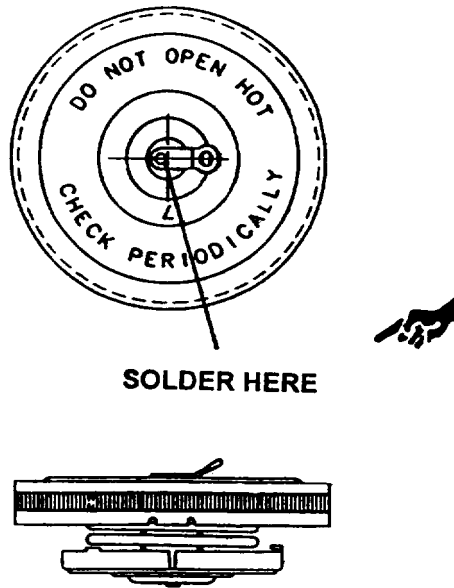
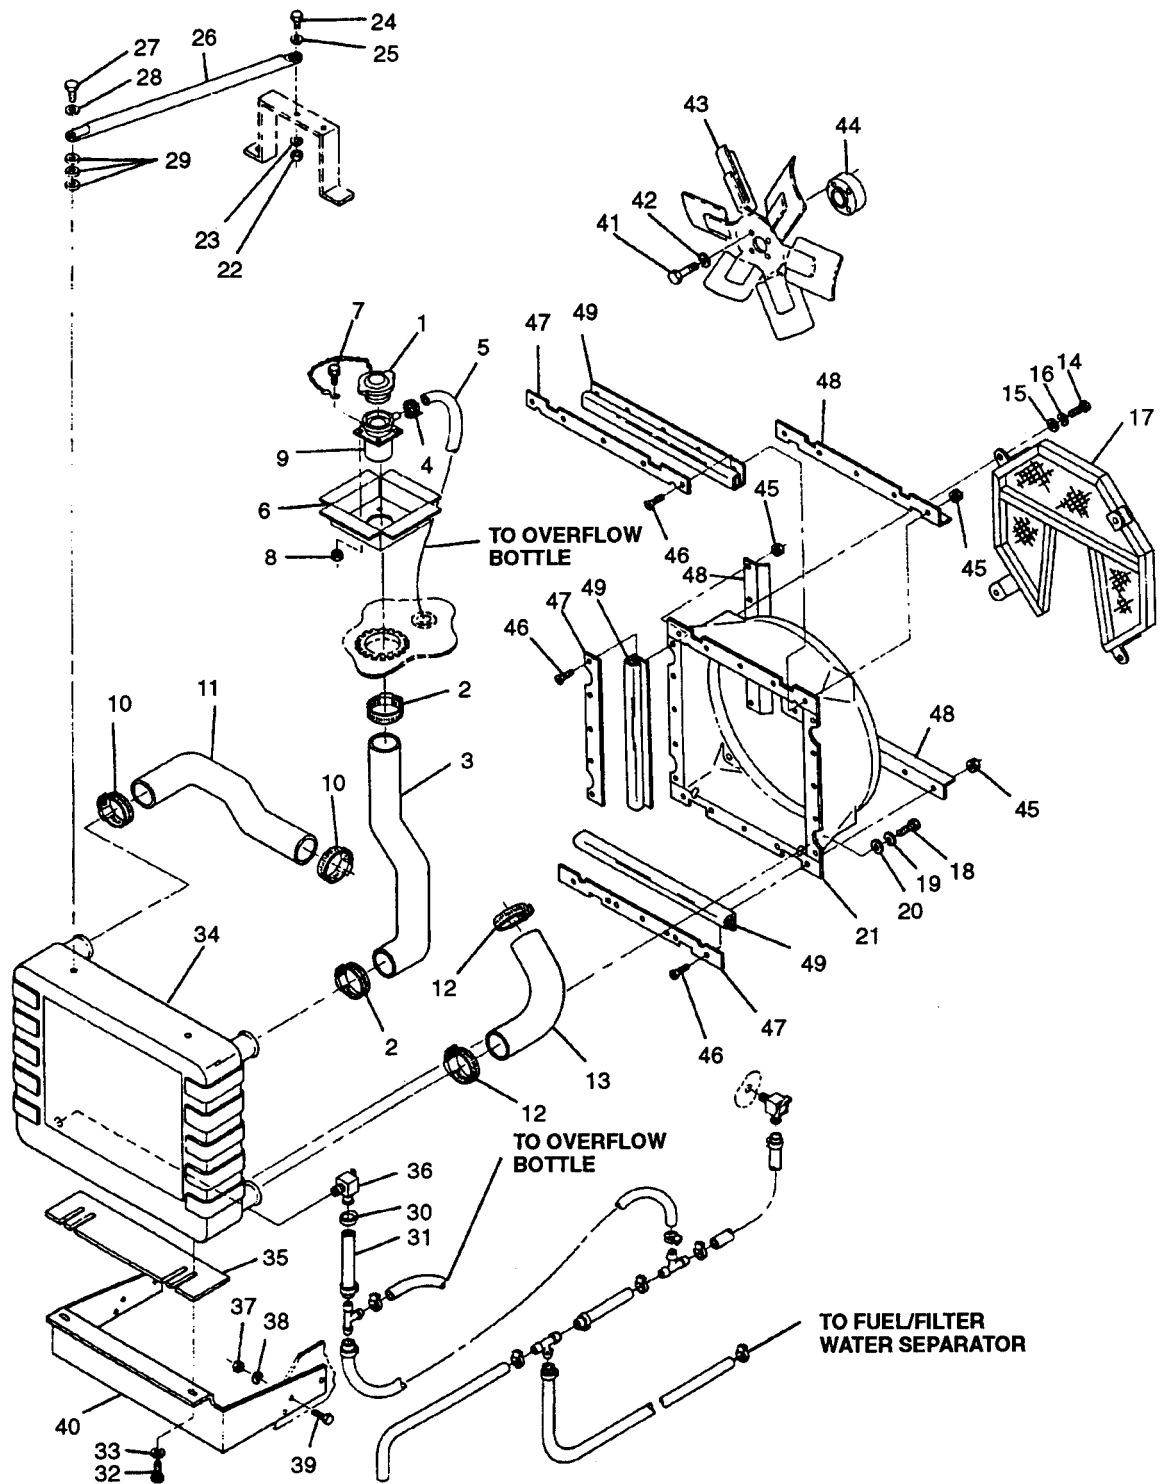

FIGURE 2-22. Radiator Cap
FIGURE 2-23. Coolant System
- b. Slowly remove radiator cap (1, FIGURE 2-23).
- g. Install radiator cap (1) on pressure tester.
- j. Install radiator cap (1).
- d. Slowly remove radiator cap (1, FIGURE 2-23).
- e. Open radiator drain valve (36) and drain coolant/antifreeze into suitable container to a level below radiator filler hose (3) connection at radiator.
- f. Loosen clamps (2). Remove radiator filler hose (3) and clamps (2).
- g. Loosen clamp (4) and disconnect overflow hose (5) from radiator filler neck (9).
- h. Remove radiator fill panel (6) and filler neck (9) from generator set.
- i. Remove bolts (7), nuts (8), cap (1), and radiator filler neck (9) from radiator fill panel (6).
- c. Inspect radiator filler hose (3, FIGURE 2-23) for cracks, holes, and dry rot.
- d. Inspect filler panel (6), filler neck (9), and cap (1) for cracks, excessive corrosion, and other damage.
- a. Install radiator filler neck (9, FIGURE 2-23) and cap (1) on radiator fill panel (6) with bolts (7) and nuts (8).
- b. Position radiator fill panel (6) and filler neck (9) in generator set and attach overflow hose (5) with clamp (4).
- c. Install radiator filler hose (3) on filler neck (9) and radiator (34) with clamps (2).
- e. Close radiator drain valve (36) and add coolant /antifreeze to proper level, paragraph 2-1.2.2.
**If replacing radiator cap solder tab to radiator cap as shown in FIGURE 2-22.**
- f. Install radiator cap (1).
- e. Open radiator drain valve (36) and drain coolant/antifreeze into suitable container.
- f. Loosen clamps (10). Remove upper coolant hose (11) and clamps (10).
- c. Inspect upper coolant hose (11, FIGURE 2-23) for cracks, holes, and rotting.
- a. Install upper coolant hose (11, FIGURE 2-23) on thermostat housing opening and radiator (34) with clamps (10).
- b. Close radiator drain valve (36) and add coolant/antifreeze to proper level, paragraph 2-1.2.2.
- c. Install radiator cap (1).
- e. Open radiator drain valve (36) and drain coolant into suitable container.
- f. Loosen clamps (12) and remove lower coolant hose (13).
- c. Inspect lower coolant hose (13, FIGURE 2-23) for cracks, holes, and rotting.
- a. Install lower coolant hose (13, FIGURE 2-23) on radiator outlet opening and water pump opening with clamps (12).
- d. Locate overflow or drain hose to be removed, as shown on FIGURE 2-23 and FIGURE 2-25.
- d. Remove bolts (14, FIGURE 2-23), washers (15), lockwashers (16), and fan guard (17) from shroud (21).
- a. If removed, install radiator mounting bracket (40, FIGURE 2-23) with bolts (39), lockwashers (38), and nuts (37).